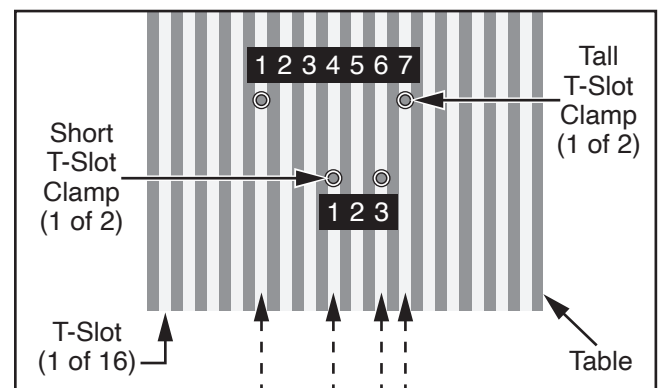

Figure 6. Example of T-slot positioning.
4. Slide (2) tall T-slot clamp nuts through T-slots in table to secure rotary table (see **Figure 6**).
5. Slide (2) short T-slot clamp nuts through T-slots in table to secure tailstock, as shown in **Figure 6**.